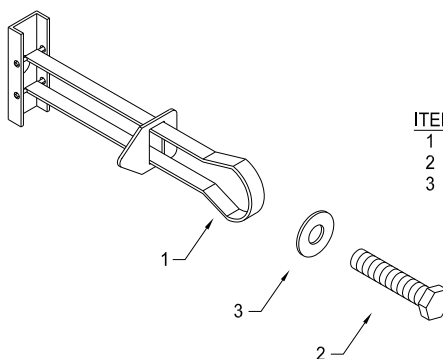

Figure 3
1. Remove contents from carton and examine for damaged or missing parts. See Figure 3.